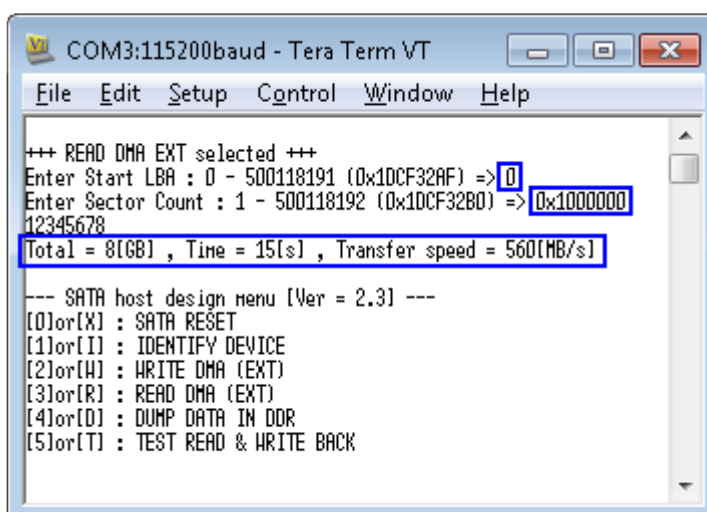

Figure 3-6 READ DMA (EXT) command without verify
- Sector Count: same description with Sector Count in WRITE DMA (EXT) menu. If this input is not more than 65536, the third input will be displayed for selecting verification pattern. If input is more than 65536, the third input will not be displayed to skip data verification process for checking performance only, as shown in Figure 3-6.